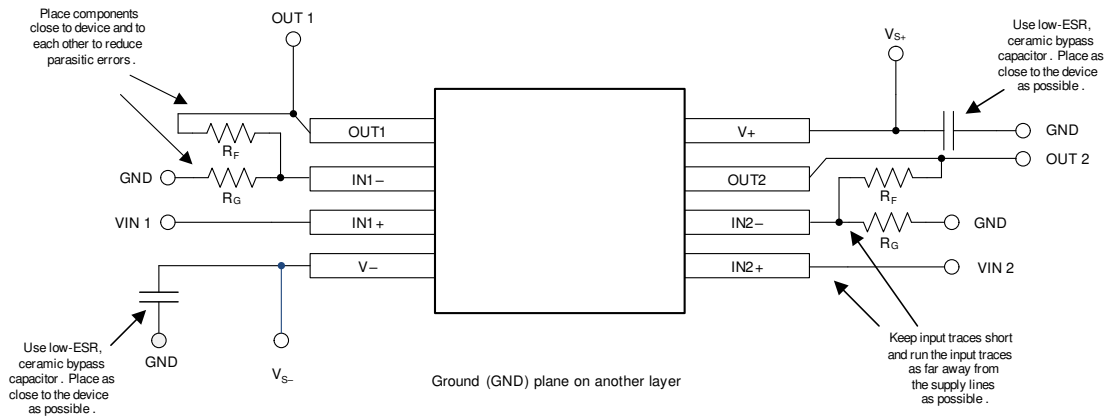

图 35. Layout Example
- Place the external components as close to the device as possible, as shown in 图 35. Keeping R_F and R_G close to the inverting input minimizes parasitic capacitance.